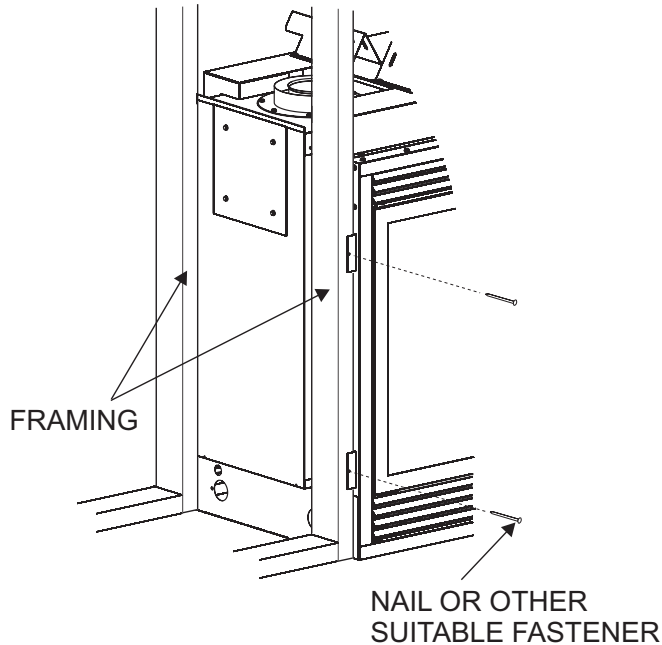

Figure 15
Flush Mount Mantel Installation - See-through Models Only (Figure 15)
The fireplace must extend 3/4" beyond finished wall surface when using a flush mount mantel on see-through models. Refer to Figure 15 to locate nailing flanges on fireplace sides. Use eight (8) 1/2" hex-head screws supplied in hardware package to attach nailing flanges to fireplace sides.